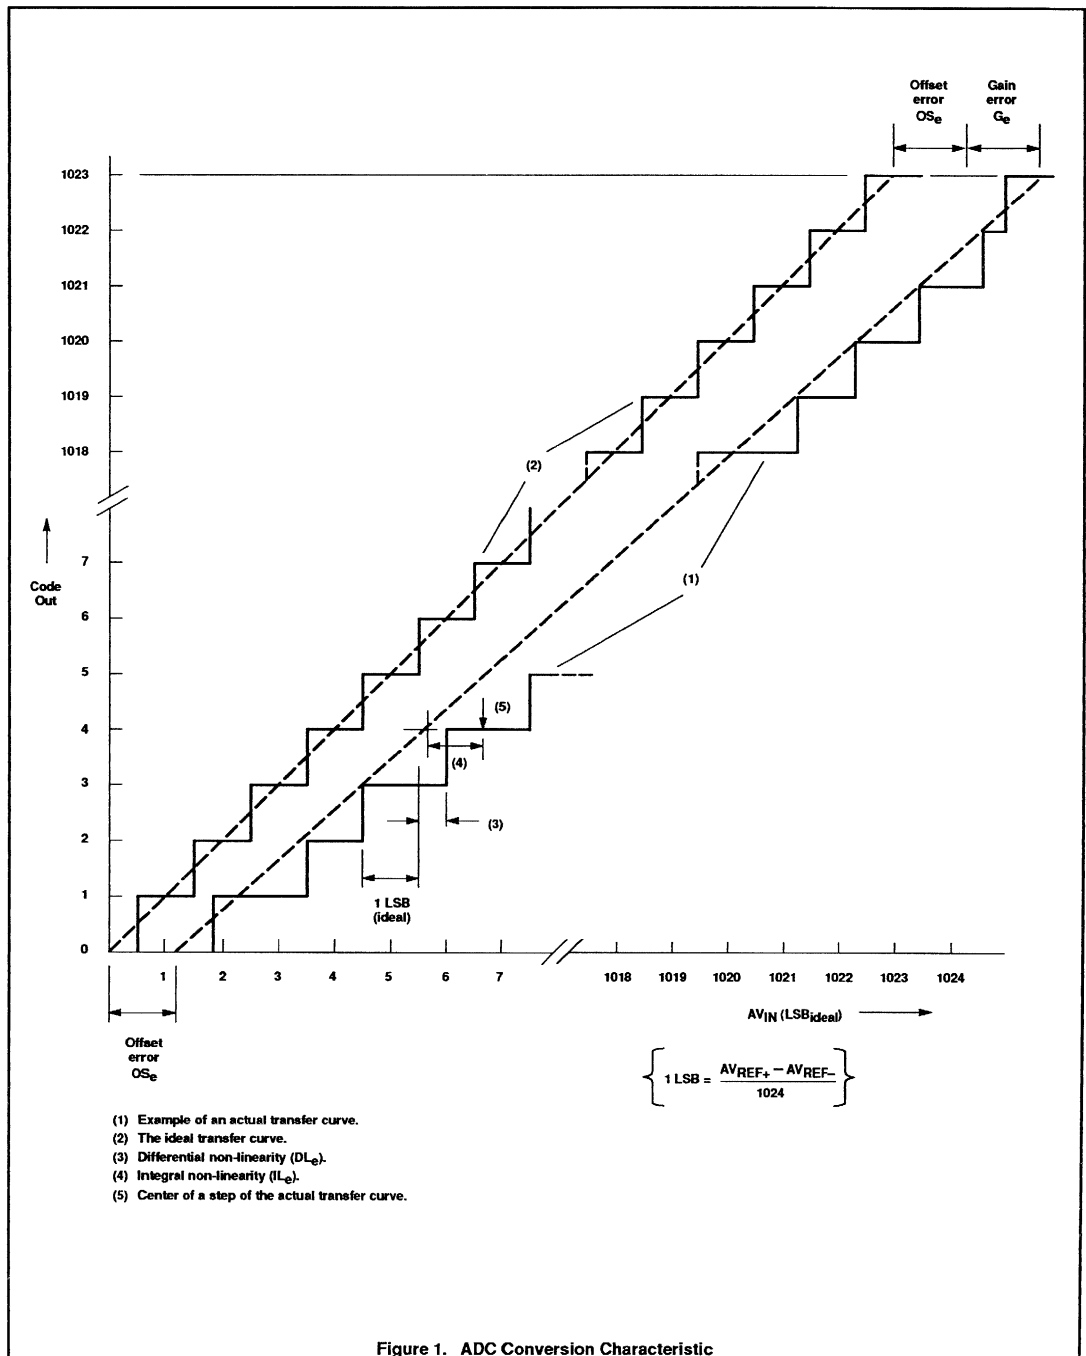

Figure 1. ADC Conversion Characteristic
- The differential non-linearity ( $\text{DL}_{\text{e}}$ ) is the difference between the actual step width and the ideal step width. (See Figure 1.)
- The integral non-linearity ( $\text{IL}_{\text{e}}$ ) is the peak difference between the center of the steps of the actual and the ideal transfer curve after appropriate adjustment of gain and offset error. (See Figure 1.)
- The offset error ( $\text{OS}_{\text{e}}$ ) is the absolute difference between the straight line which fits the actual transfer curve (after removing gain error), and a straight line which fits the ideal transfer curve. (See Figure 1.)
- The gain error ( $\text{G}_{\text{e}}$ ) is the relative difference in percent between the straight line fitting the actual transfer curve (after removing offset error), and the straight line which fits the ideal transfer curve. Gain error is constant at every point on the transfer curve. (See Figure 1.)